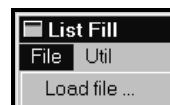

Figure 3-96. List Fill > File Menu
As shown in Figure 3-96, there is only one (1) choice on the File Menu - Load file.... This allows you to import a saved tube list created in either the PLANS or TUBE SET dialogs. An Open window will default to the `\corestar\tubelist` directory. Either double-click on the desired list or click once on the file and then on Open to load in the tube list.